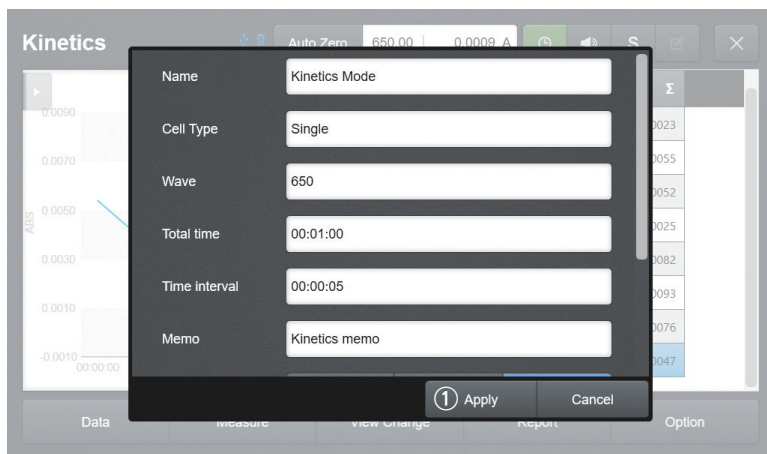

Fig. 6.11
3. [Fig. 6.11] Select and enter the Name, Cell Type, Wavelength, Total time, Time interval, Memo, and View Change, then press ① **Apply**